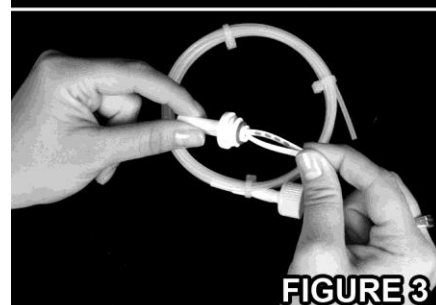

FIGURE 3
3. Insert it into the indicator capsule with the fold first. (Figure 3)